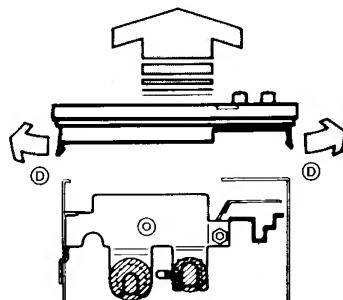

Fig. 5-2-3
4. Remove the TOP PANEL-1 by slightly prying it outward on both sides at points **D** as shown in Fig. 5-2-3. DO NOT break the tabs.